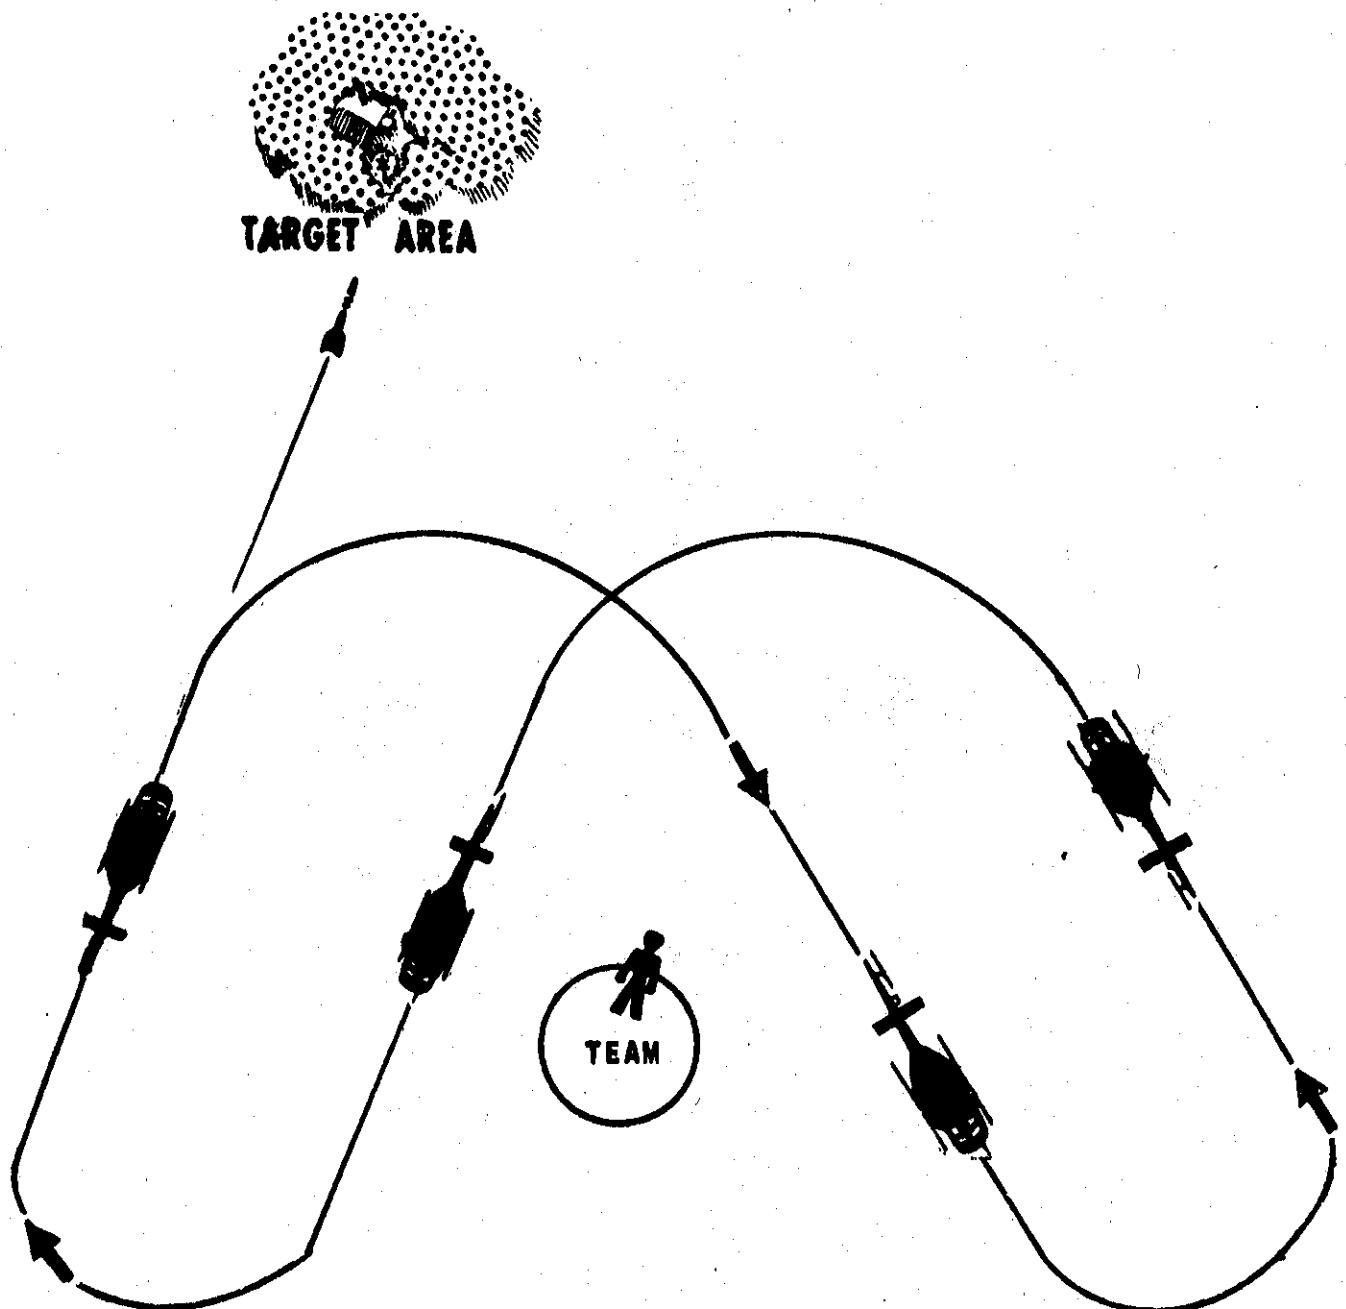

Figure 29-5. Random/Modified Using Integrated Fixed Fwd and Side Fire.
f. Random/Modified (figure 29-5). This pattern gives the gunships the capability of delivering rocket fire as well as side fire, and may be entered from either the Figure "8" or Dogbone.